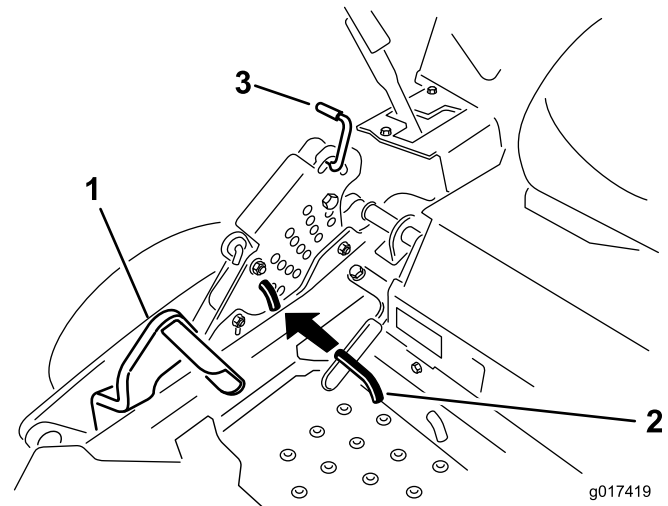

Figure 69
5. Push the deck lift pedal all the way forward and the deck will latch at the 5 1/2 inch (14 cm) transport position (Figure 69).